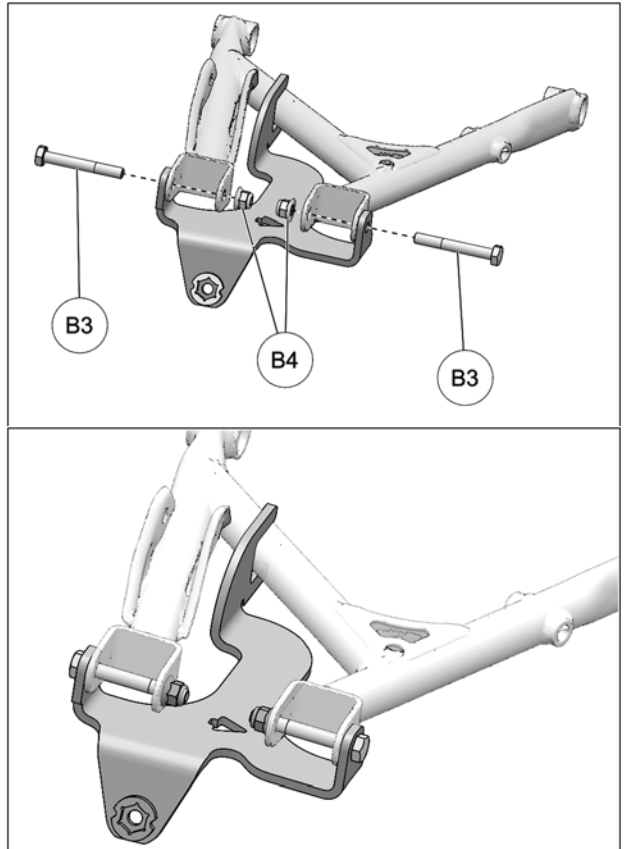

Fig. 7
7. Insert the new M10x75mm bolts (B3) in the anchor bracket, through the lower suspension arm and wheel hub. Secure assembly using the new M10 nuts (B4) provided. Tighten bolts to 70 N•m [52 lb•ft]. See Fig. 7